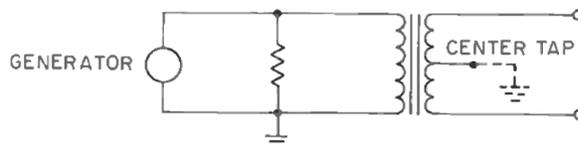

Figure 7. A transformer used for isolation.
**Isolation.** If we wish to isolate a circuit or a transmission line from ground, then the transformer, because it employs magnetic coupling, is an excellent choice. In the circuit of FIGURE 7 we have a signal source with respect to ground. If we wish to eliminate the ground reference, then a 1:1 isolation transformer is used. If we wish to provide a source which is balanced with respect to ground, then we can ground the center tap of the secondary. ■